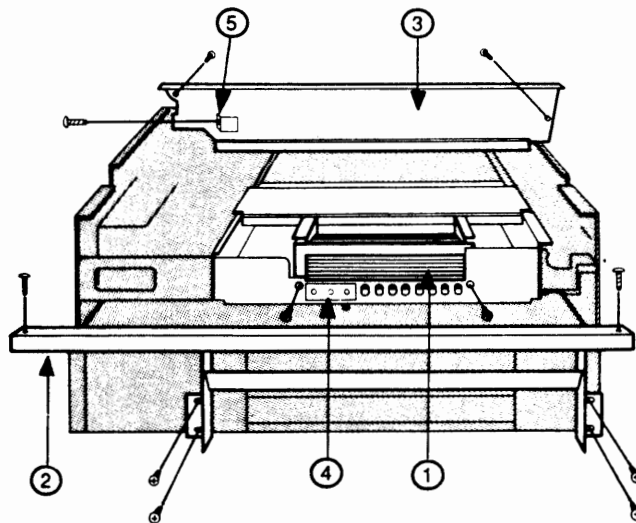

FIGURE 2-13
4. The optical sensor assembly is attached to the center of the left side of the printer (Figure 2-13, #4). Remove the single screw and the small metal plate, press the plastic clips together, and lift the assembly out.